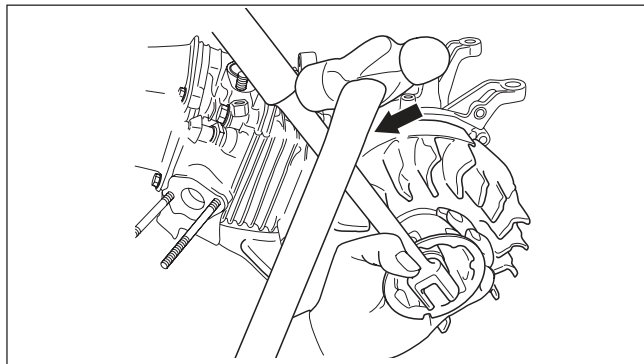

Fig. 5-10
| 13 | Starting pulley | Remove the starting pulley from the flywheel. Fit a box wrench or a socket wrench on the flywheel nut and loosen the nut by knocking the wrench sharply with a hammer. (See Fig. 5-10) NOTE: 1) Do not insert a screwdriver or other object between the flywheel blades, otherwise the risk of damaging the blades might be ocured. 2) Knock the wrench with a hammer in a counter clockwise direction. 3) The fan of the Model EX21 engine is made of synthetic resin. Take the utmost care when handling it. | 19 (24) mm box spanner or socket wrench M14 nut (Models EX13, 17 and 21) M18 nut (Model EX27) |